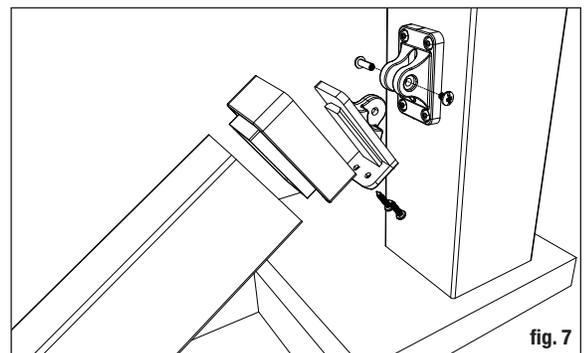

fig. 7
**Step 6** Disassemble stair bracket hinge and attach L-bracket and bracket cap to rails. Place hinge plate on the post with the previously marked line. Center and mark the screw locations. Pre-drill through the post sleeve only using a 1/4" drill bit. Attach each hinge plate to the post with four 1-3/4" long screws (refer to fig 7).
**Step 8** Position the bottom rail between the posts and attach hinge plate to the assembled stair rail bracket using the mating bolts (refer to fig. 7).